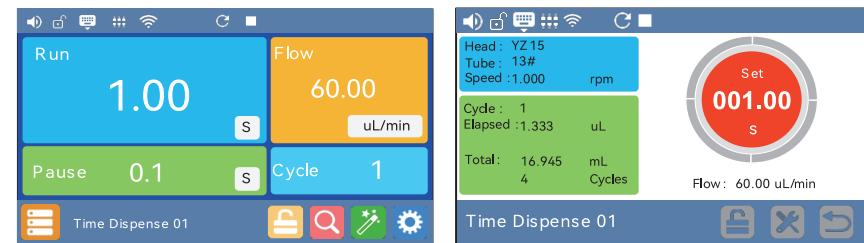

Figure 52 Time Dispensing Interface
- When the power is cut off, connect the circuit according to figure 52 or figure 53, and connect the DB15 interface to the back interface of the pump.